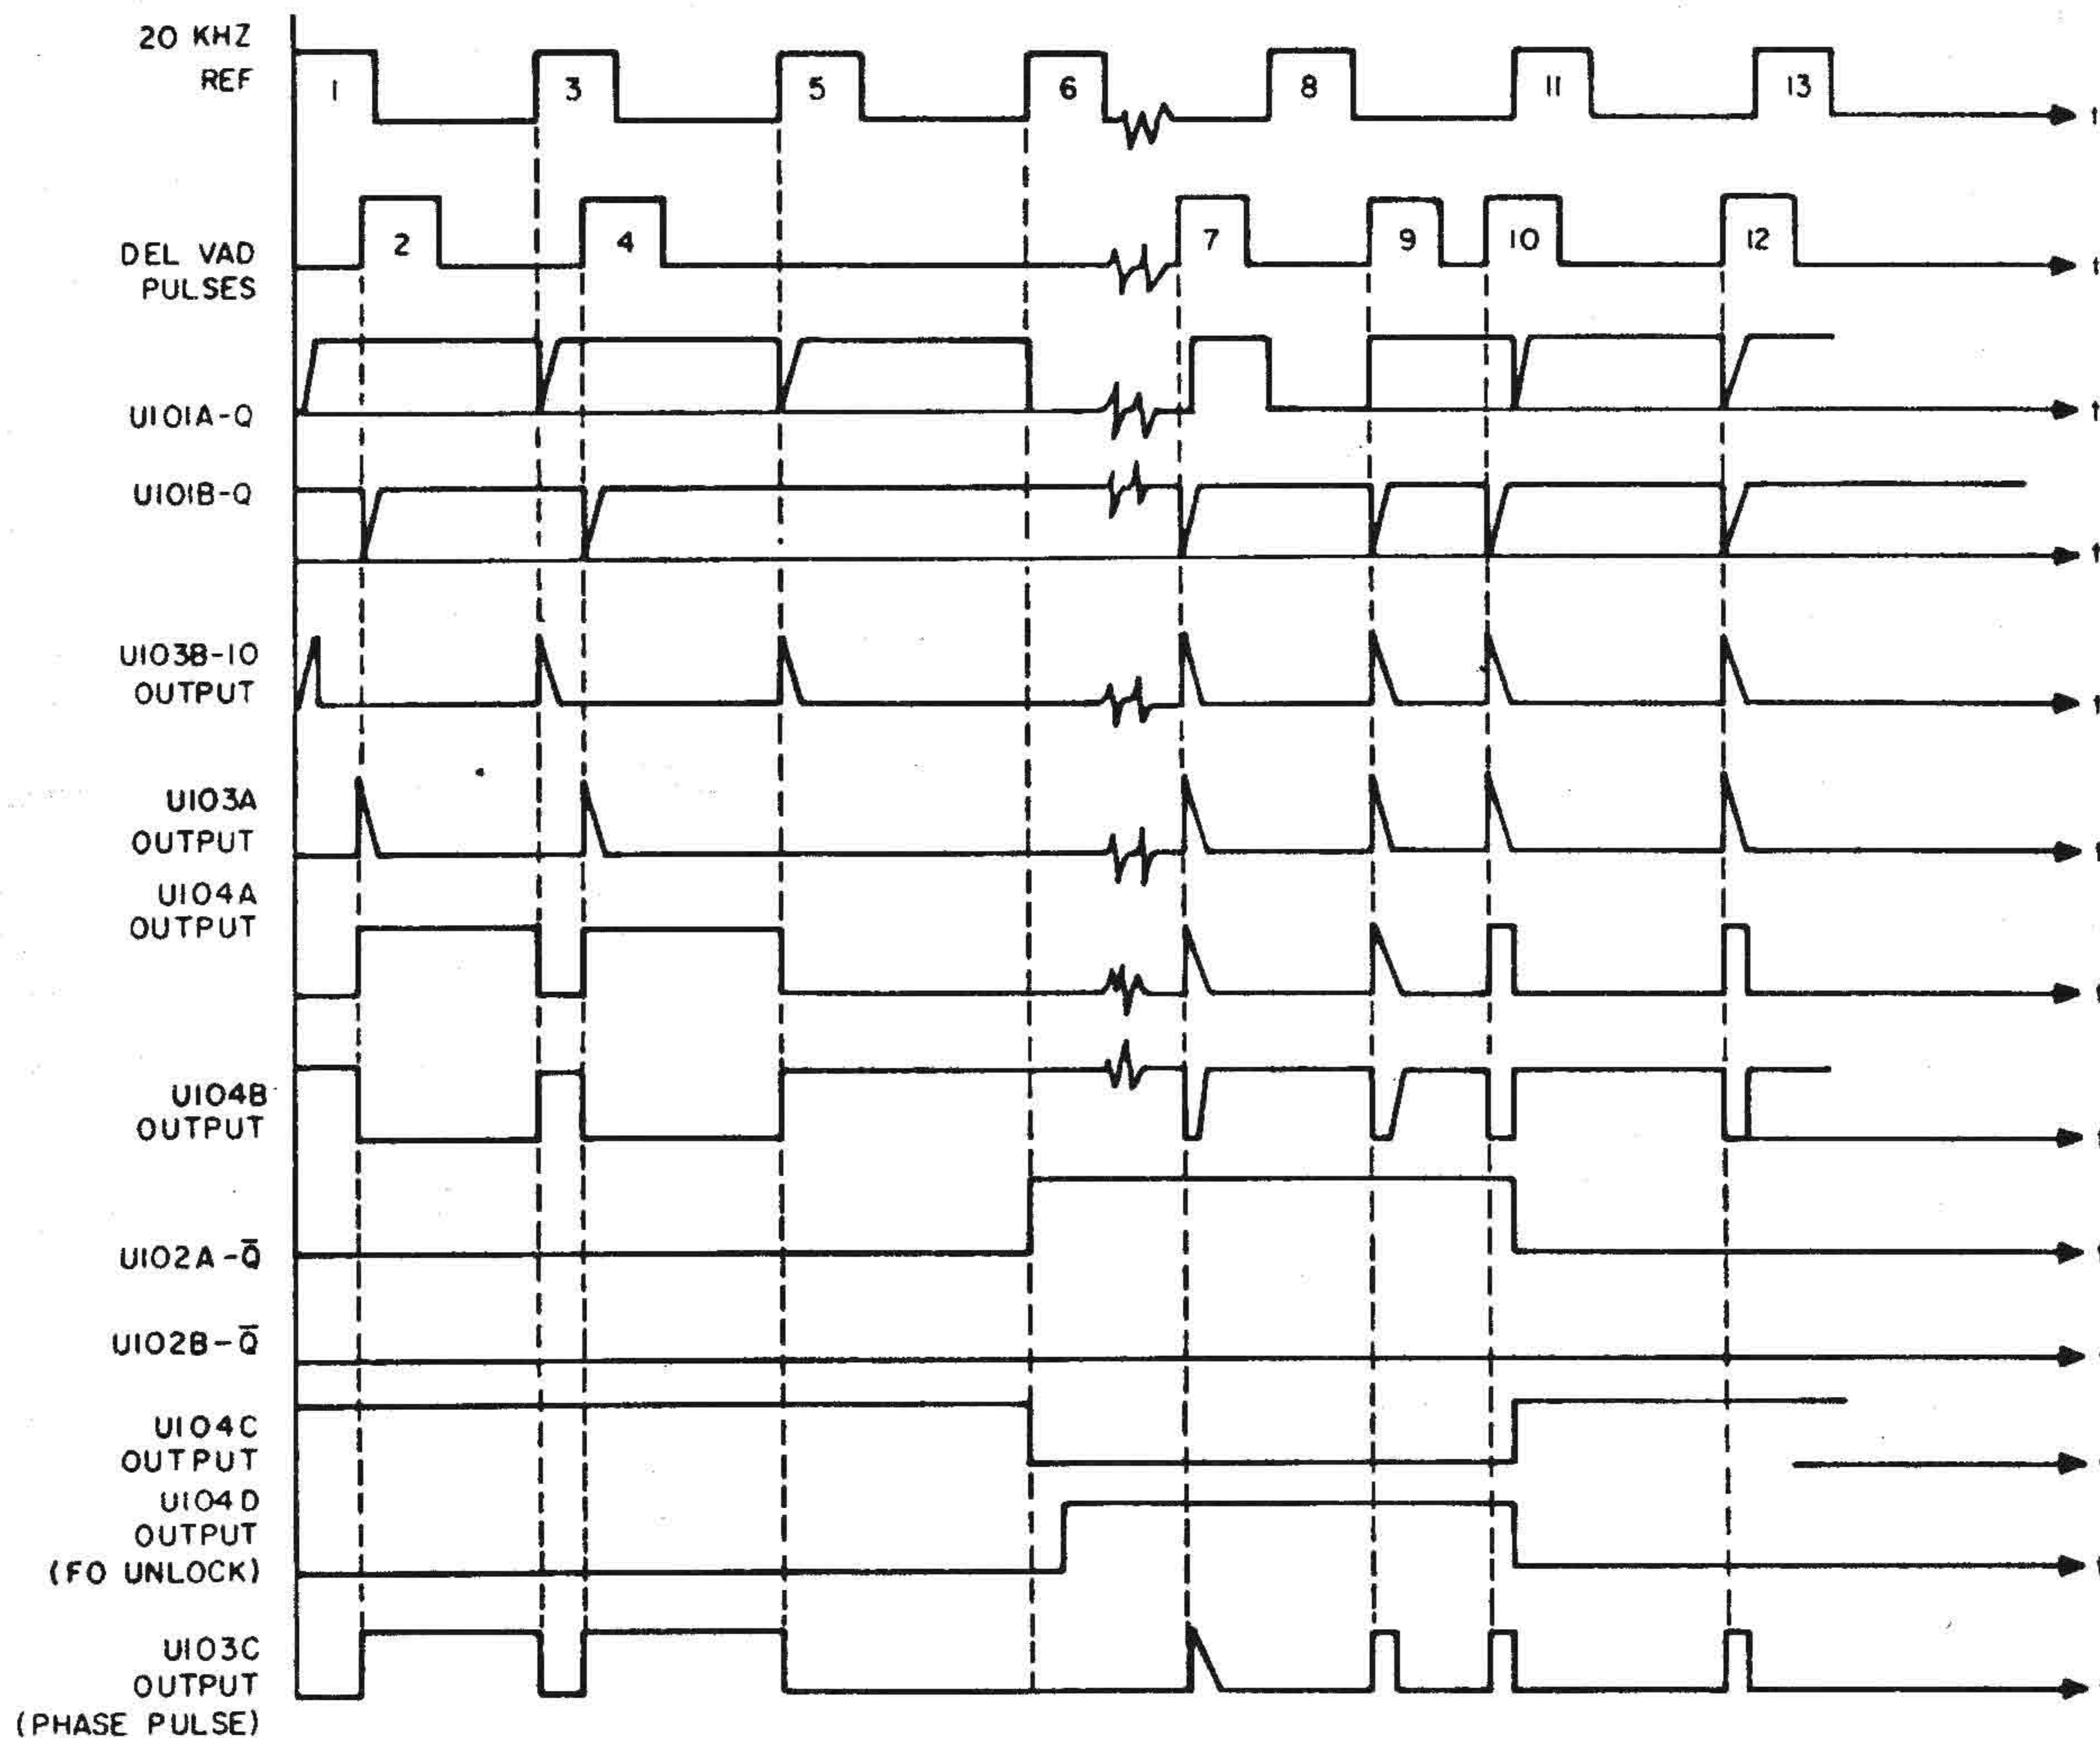

Fig. 2-61. Phase/frequency detector, typical waveforms
(6) Voltage regulators. Transistors Q8 and Q9 supply filtered +14V and +5V voltages. Q8 is biased to saturation through R41. Q9 is biased through the voltage divider consisting of R42, CR1, and R43.
c. Main Phase/Frequency Detector and Lock Detector (fig. 2-61). The phase/frequency detector which controls the VCO in module VCP 1A3A1 consists of U101, U103 A/B and U104 A/B. The lock detector consists of U102, U103C and U104 C/D. Typical waveforms are shown in fig. 2-61.
(1) Phase/frequency detector. The phase detector provides an output waveform (at pin X) whose duty cycle is proportional to the phase (time) difference between the rising edges of the 20-kHz reference and the DEL VAD pulse, which is received from variable divider VAD 1A3A2 through module VCP 1A3A1. The phase detector circuit consists of the input sampling flip-flops U101A and U101B, the buffer flipflop, consisting of NOR gates U103A and U103B, and the output flip-flop, consisting of NOR gates U104A and U104B.
(2) Detailed circuit operation analysis. When the input frequencies are equal (e.g. pulses 1 through 4 in fig. 2-61), an alternating sequence of reference/DEL VAD pulse/reference/etc., appears at the inputs. Let us assume that the last positive transi-